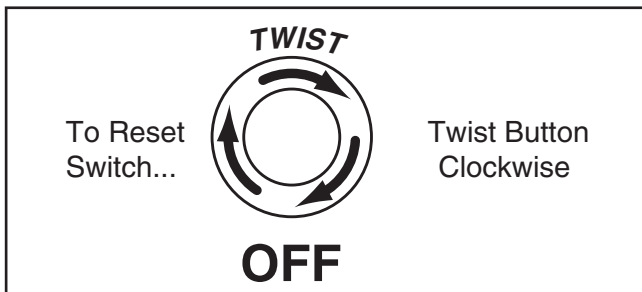

Figure 20. Resetting the switch.
4. Push the EMERGENCY STOP button in, then twist it clockwise so it pops out. When the EMERGENCY STOP button pops out, the switch is reset and ready for operation (see Figure 20).